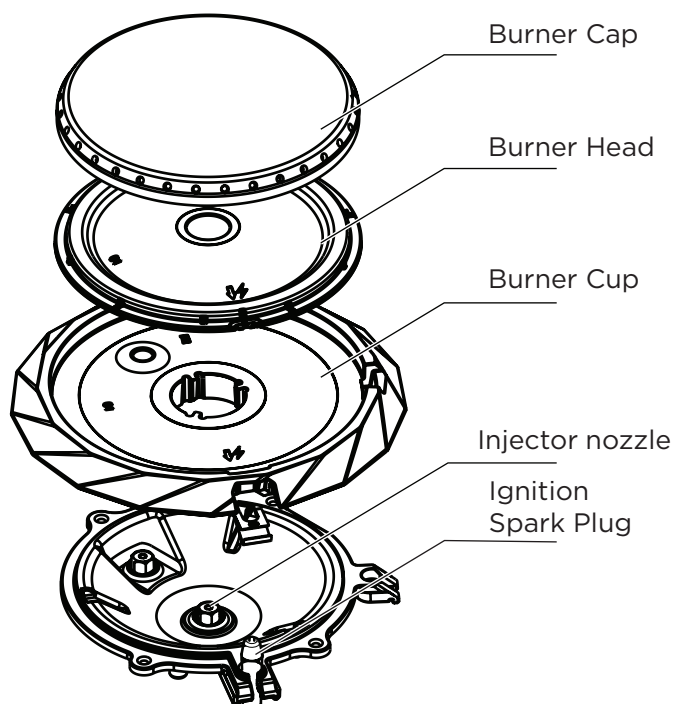

Figure 20: Removeable burner components
1. Remove the burner cap, burner head and burner cup (see Figure 20). Clean the cap, head and cup with hot soapy water and dry thoroughly.